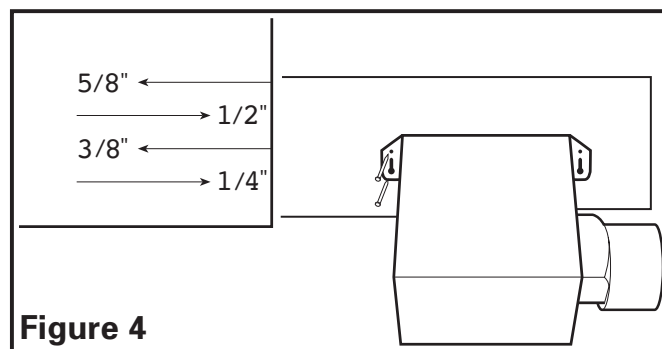
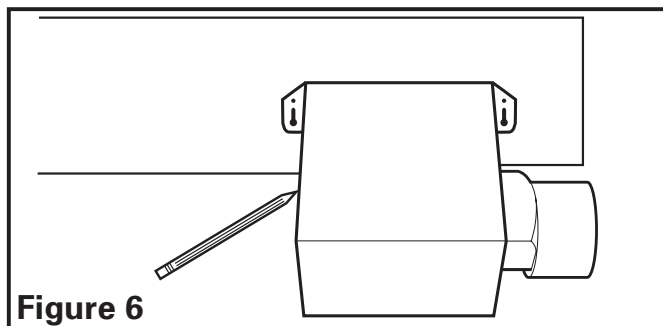

Figure 4
Figure 6
2. **Mounting Tab Installation:** Using the gauge on the fan's housing, line up housing so that it will be flush with the finished ceiling. Position the fan so that the tabs rest flat against the joist and secure with four nails (not provided) to ensure proper installation (**Figure 4**).
1. **Mounting Tab Installation:** Position housing against the joist and trace an outline of the housing onto the ceiling material (**Figure 6**). Set housing aside and cut opening, being careful not to cut or damage any electrical or other hidden utilities. Place housing next to the joist and insure that it is flush with the finished ceiling. Secure with four nails (not provided) to ensure proper installation (**Figure 4**).